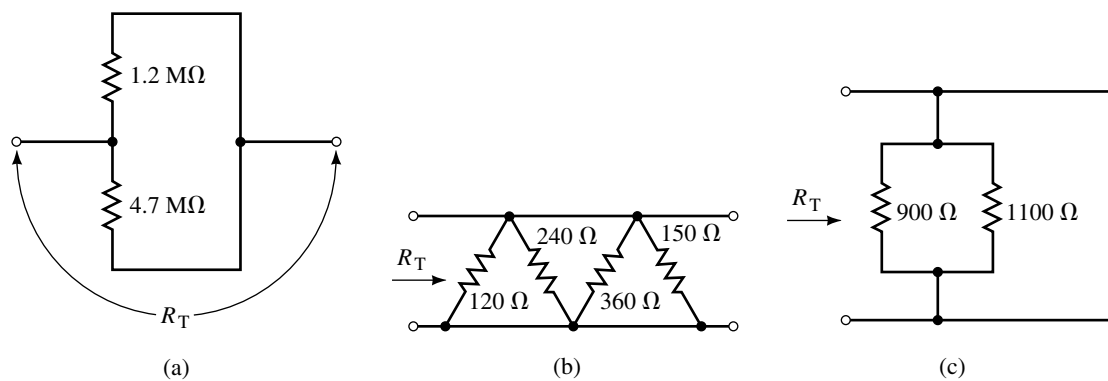

FIGURE 6–66
21. Determine the values of the resistors in the circuit of Figure 6–67, given the indicated conditions.